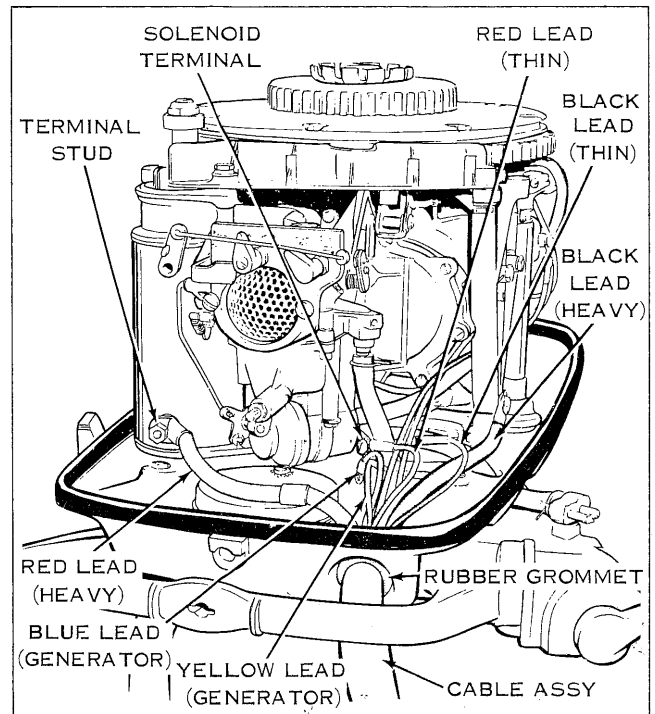

FIGURE 7
21. Insert rubber grommet (provided in kit) in enlarged stop switch hole in lower motor cover. See Figure 7.
22. Insert cable assembly through hole in grommet so that the outer insulation of the cable assembly extends through the grommet approximately one inch. See Figure 7.
23. Attach heavy red lead to starter motor terminal stud. Secure this heavy red lead to air silencer cover screw with clamp provided in kit. Caution: Be certain that there is sufficient slack in the cable between starter motor terminal and clamp to allow for powerhead movement. Attach other red lead to solenoid terminal with screw provided in kit. See Figure 7. Attach heavy black lead to lower port bracket mounting screw. See Figure 7. Attach short black lead (thin) to short lead from magneto (knife disconnect). See Figure 7.